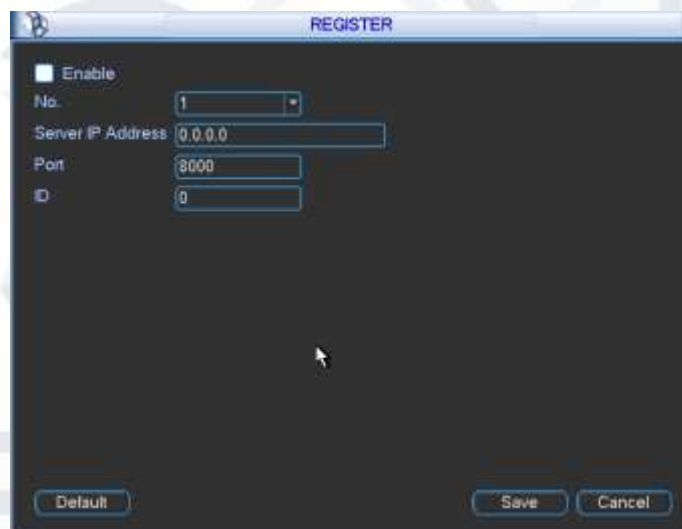

Figure 4-52
1. Please set the proxy server address, port, and sub-device name at the device-end. Also enable the auto register function, the device is able to auto register to the proxy server. The setup interface is shown in Figure 4-52.
3. Now you can add the device. Please do not input default port number such as the TCP port in the mapping port number. The device ID here shall be the same as the ID you input in Figure 4-52. Click Add button to complete the setup.